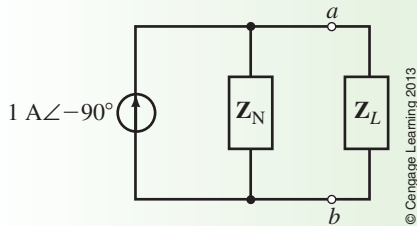

FIGURE 20-30
Step 5: The resultant Norton equivalent circuit is shown in Figure 20-30.